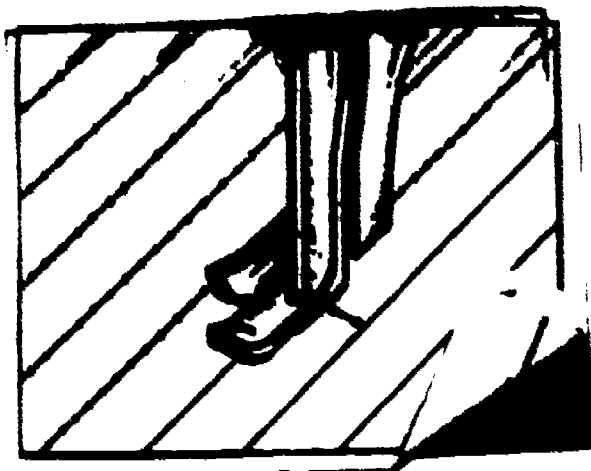

Figure 10. Method of Guiding Sewing.
8. Press the foot pedal with the toe very lightly and sew on the line to the opposite edge of the paper. Use the presser foot and adjacent line as a guide, figure 10.